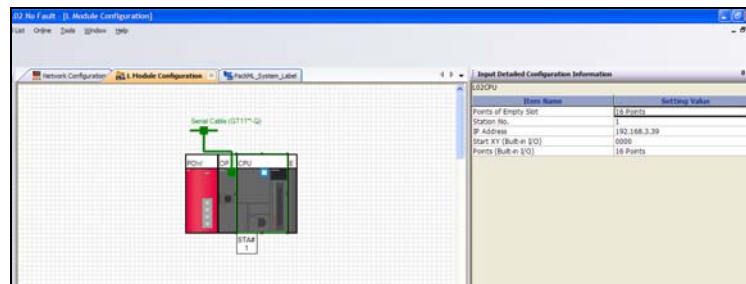

Figure 7 – Low Cost PackML Template System Network Configuration
- c. The “Module Configuration” workspace is now showing the L02PLC is connected to Network #1 as shown in Figure 7.